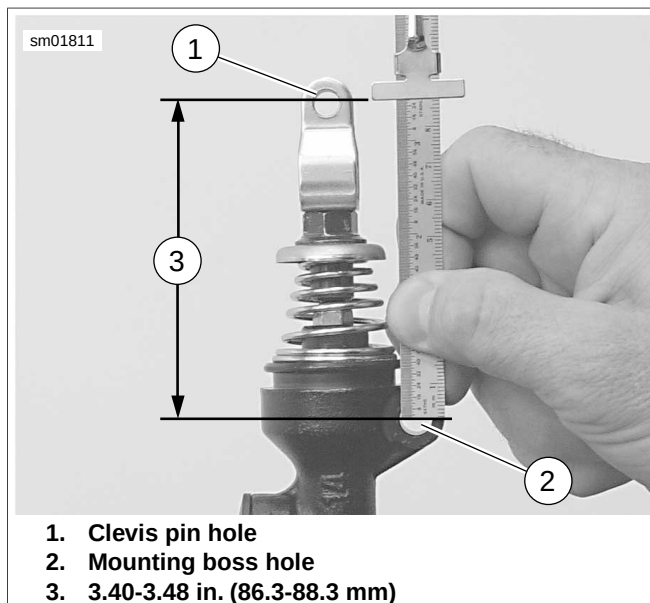

Figure 2-109. Adjusting Push Rod Length
13. See Figure 2-109. Measure distance from centerline of clevis pin hole (1) in yoke to centerline of master cylinder mounting boss hole (2) closest to yoke. This distance must be 3.40-3.48 in. (86.3-88.3 mm). Turn yoke on push rod in one direction or the other until this distance is obtained.